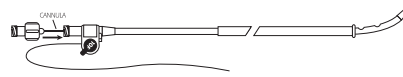

Figure 1
2. Slide pigtail straightener along distal portion of catheter to straighten curve prior to placing metal stiffening cannula into the catheter. Place the metal stiffening cannula into the catheter and tighten the Luer lock fittings. See Figure 1.